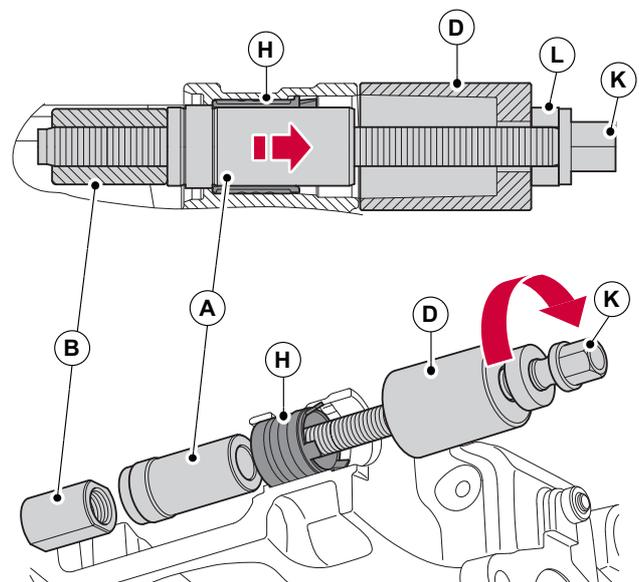

Figure 56. Remove the trailing side composite bushing
10. The composite bushing (H) on the trailing side should be removable by hand.
11. However if this is not possible, assemble in sequence Haldex special tool (K), (L), (D), (A) and (B), as shown in figure 56.